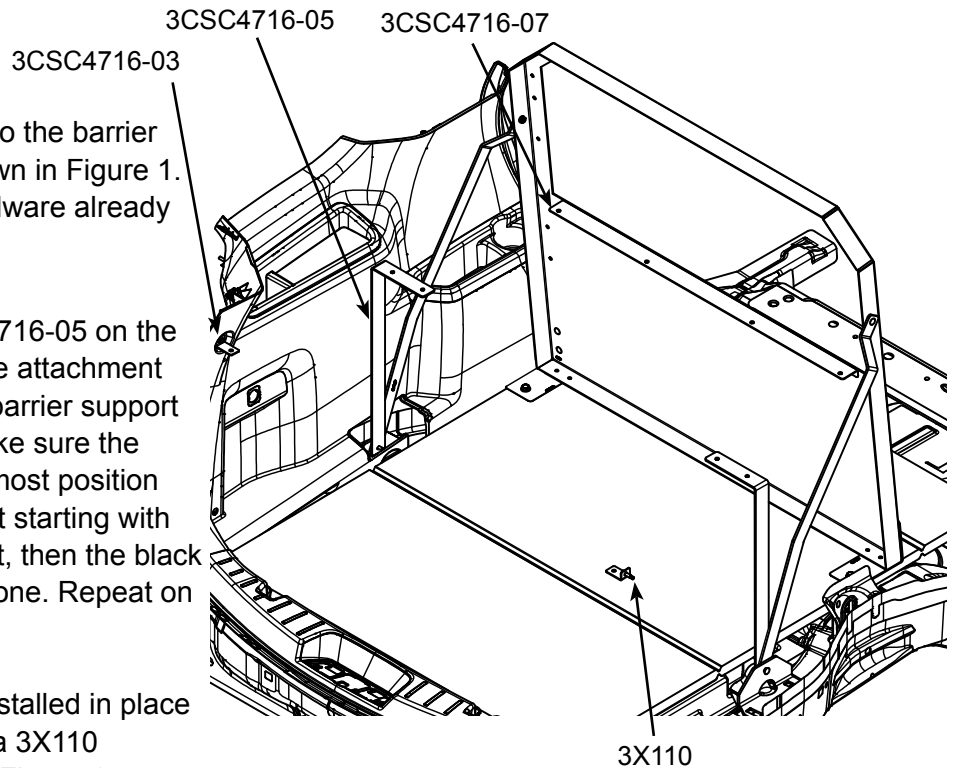

Figure 1
A. Attach bracket 3CSC4716-07 to the barrier using the 4 hole locations shown in Figure 1. It is attached by using the hardware already provided in those locations.
B. Loosely attach bracket 3CSC4716-05 on the passenger side using the same attachment location and hardware as the barrier support bracket shown in Figure 1. Make sure the bracket is placed in the inner-most position with all other brackets behind it starting with the other grey bracket behind it, then the black bracket behind the other grey one. Repeat on the driver side.
C. Brackets 3CSC4716-03 are installed in place of the rear cargo hooks using a 3X110 self-drilling screw as shown in Figure 1.